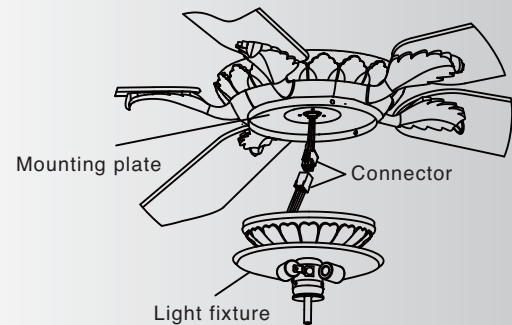

Fig. 31
Step 3. Attach the Light Fixture wiring to the Ceiling Fan wiring by taking the “Square 9 Pin Connector” from the Light Fixture and pushing it into the “Square 9 Pin Connector” from the Ceiling Fan until the snap engages. *Please note each connector is Color Coded and will fit together one way only.* Refer to Fig. 31.